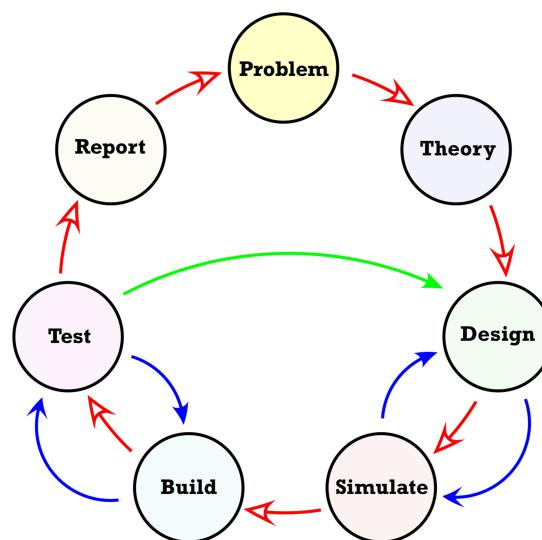

Figure 1: Engineering Design
- Apply the engineering design process of Figure 1.
Figure 1 is one representation of the process of doing engineering design. It begins with the statement of a problem in the form of specifications for a particular system. Theory, generally in mathematical form, helps develop ideas of what is possible and how the system could actually work.